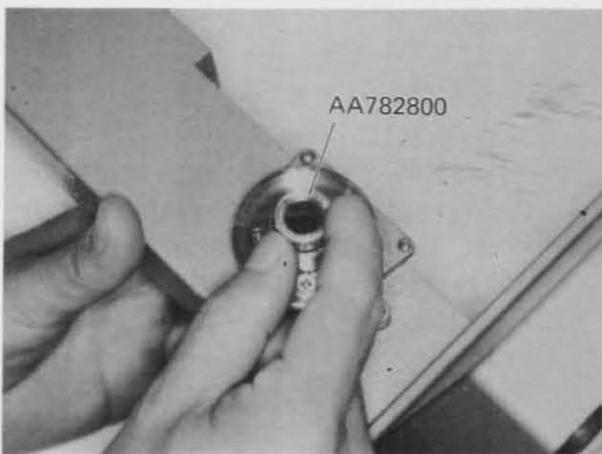

Fig. 4-10
e) Reassemble Nut AA782800 and tighten it to such a degree as to prevent the balls from dropping out. (See Fig. 4-10)